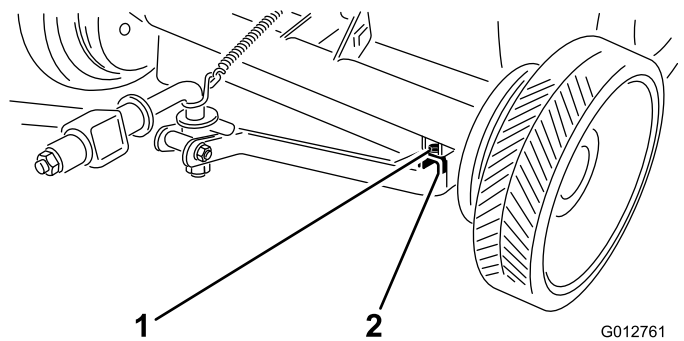

Figure 16
1. Align holes in draw bar with brackets on mower cross-tubes. Secure each side with 1/2-13 x 3-1/2 inch capscrew, spacer tube and 1/2-13 locknut (Figure 16).